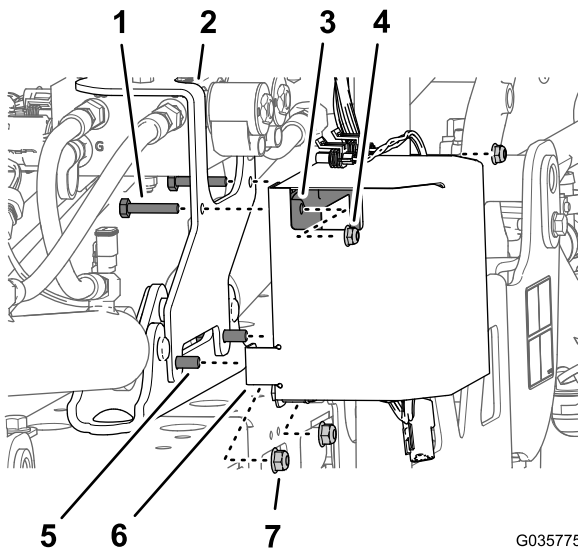

Figure 17
3. Remove the 2 flange locknuts (5/16 inch) that secure the mounting bracket of the ultra sonic boom finishing kit from the cylinder mount (Figure 17).
4. Assemble the controller cover (Figure 17) onto the flange-head bolt (5/16 x 1 inch) at the lower forward holes in the cover, and loosely secure the cover, bracket and mount with the 2 flange locknuts (5/16 inch) that you removed in 3.
5. Assemble the 2 bolts (1/4 x 1-3/8 inches) through the upper holes in the mounting bracket (ultra sonic boom finishing kit), rear flange (controller cover), and controller (Figure 17) with the 2 flange locknuts (1/4 inch).